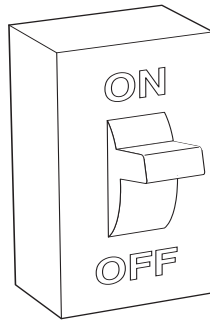

Fig. 14 – Turn on Electrical Supply
8. Turn ON the electrical supply to the furnace and wait one minute (see Fig. 14).